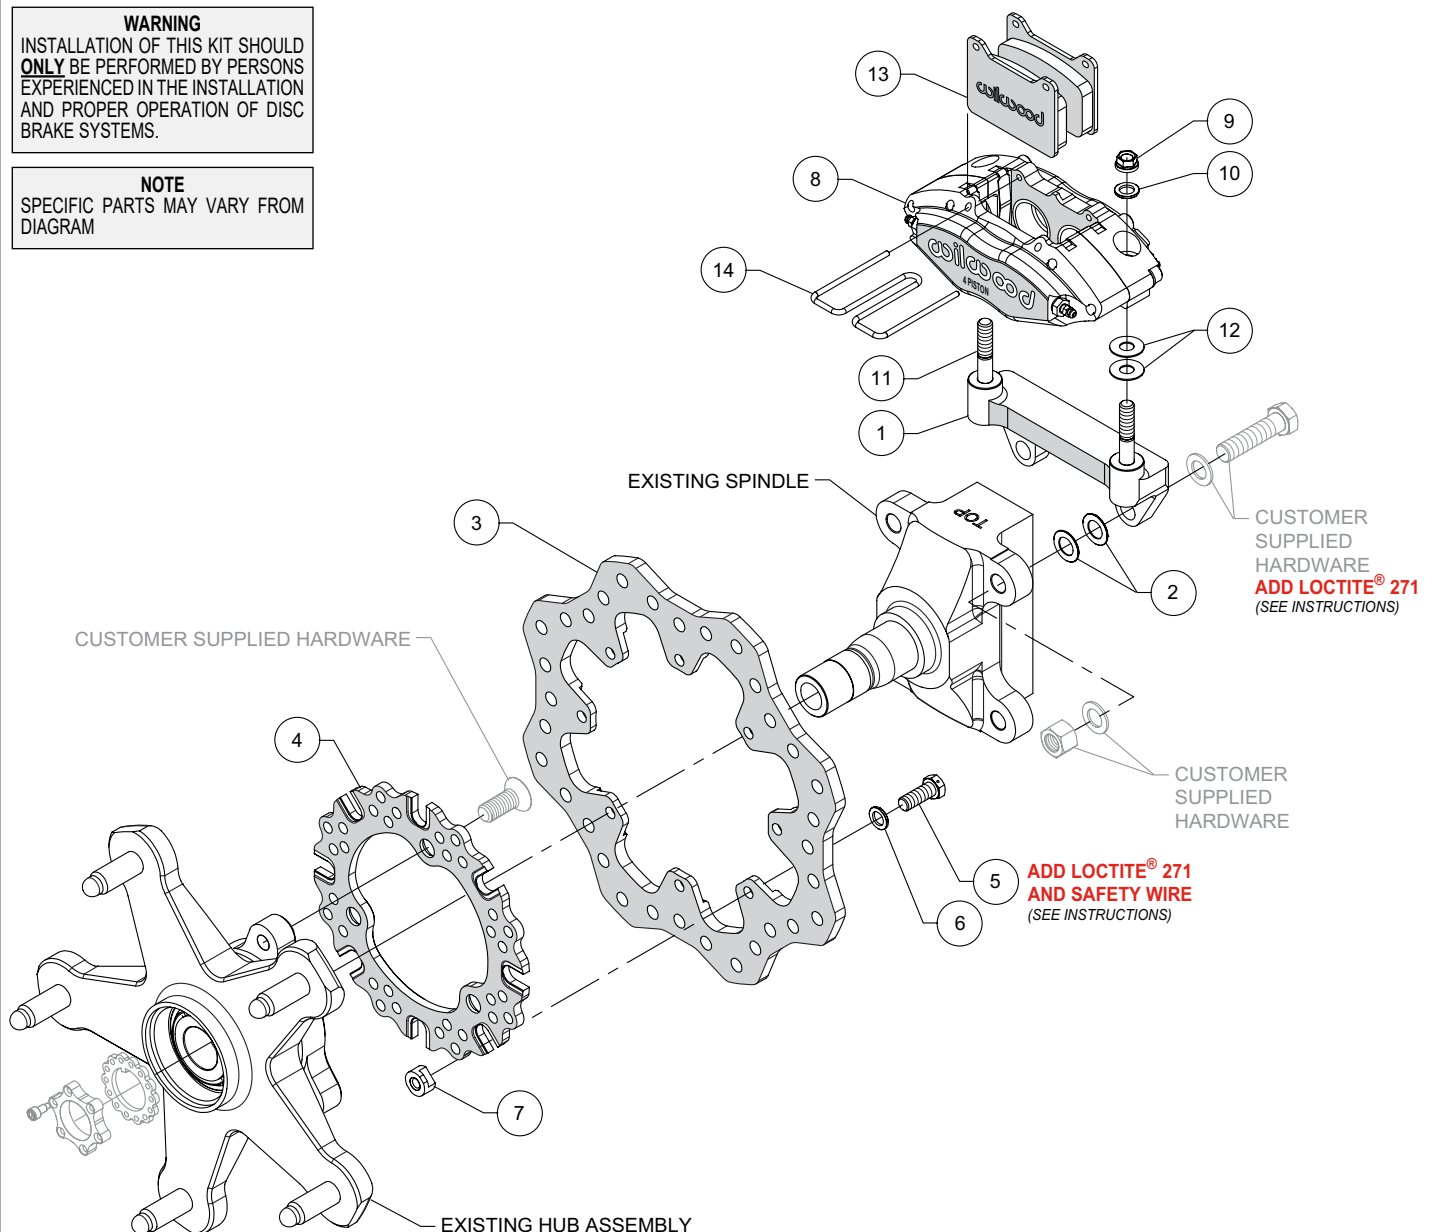

Figure 1. Typical Installation Configuration
NOTE: Numbers in parenthesis refer to the parts list and Figure 1 on the preceding pages.
- The caliper mount bracket (1) should initially be installed with clean, dry threads on the mounting bolts. Orient the bracket as shown in Figure 1, and install using customer supplied hardware. Initially place two .032" thick shims (2) on each bolt between the bracket and upright, Figure 1. Temporarily tighten the mounting bolts. **NOTE:** The bracket must fit squarely against the mount bosses on the upright. Inspect for interference from casting irregularities, machining ridges, burrs, etc. Later, after the caliper alignment has been checked, the mount bolts will be secured using red *Loctite*® 271.
- Orient the rotor (3) and rotor adapter (4), as shown in Figure 1, and attach using bolts (5), washers (6), and t-nuts (7), Figure 1. Apply red *Loctite*® 271 to the bolt threads and torque to 220 **in-lb** using a criss-cross pattern. Please refer to Wilwood's data sheet DS-669 (available at www.wilwood.com/Pdf/DataSheets/ds669.pdf) for complete t-nut bolt kit installation instructions. **NOTE:** Rotor adapter may be fix mounted to rotor (instead of floating mount) using customer supplied hardware.
- Install the rotor/adapter assembly to the existing hub using customer supplied hardware, Figure 1. Slide the hub assembly onto the existing spindle and secure using customer supplied hardware.
- Initially place two .035" thick shims (12) on each stud (11) between the caliper and the bracket, as shown in Figure 1. Mount the caliper (8) onto the bracket (1) using lock nuts (9) and washers (10), Figure 1. Temporarily tighten the lock nuts and view the rotor through the top opening of the caliper. The rotor should be centered in the caliper. If not, adjust by adding or subtracting shims (2) between the bracket and the upright. Always use the same amount of shims on each of the two mounting bolts. Once the caliper alignment is correct, remove the bracket mounting bolts one at a time, apply red *Loctite*® 271 to the threads, and torque to specification.
- Remove the pad clip retainer (14) from the caliper (8). Insert the disc brake pads (13) into the caliper, with the friction material facing the rotor (3), as shown in Figure 1. Check that the top of the brake pad is flush with the outside diameter of the rotor. If not, adjust by adding or subtracting shims (12) between the caliper and the bracket. After the caliper pad height is set, torque caliper lock nuts (9) to 30 ft-lb. Secure the pads in place with the pad clip retainer.